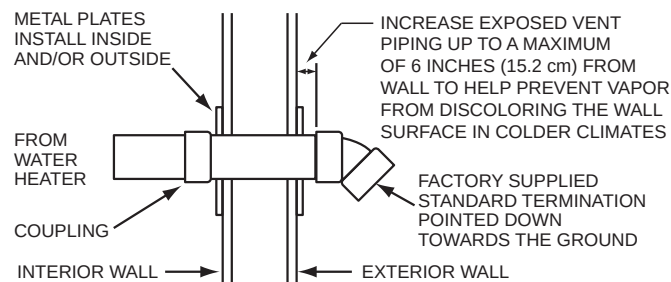

Figure 26. Side-Wall Termination Installation:
8. Cut a length(s) of pipe being installed 3.5 inches (8.9 cm) to 9.5 inches (24.1 cm) longer than the wall thickness at the opening. See **Figure 26** (page 26).
11. Working from outside, slide the pipe and termination(s) assembled in the above steps through the wall. Ensure the termination(s) is pointed down towards the ground. See **Figure 26**.
15. Install a coupling to the end of the pipe(s) inside the building. Before the silicone caulking has time to completely set go outside the building and ensure the termination(s) is still pointing down towards the ground. See **Figure 26**.